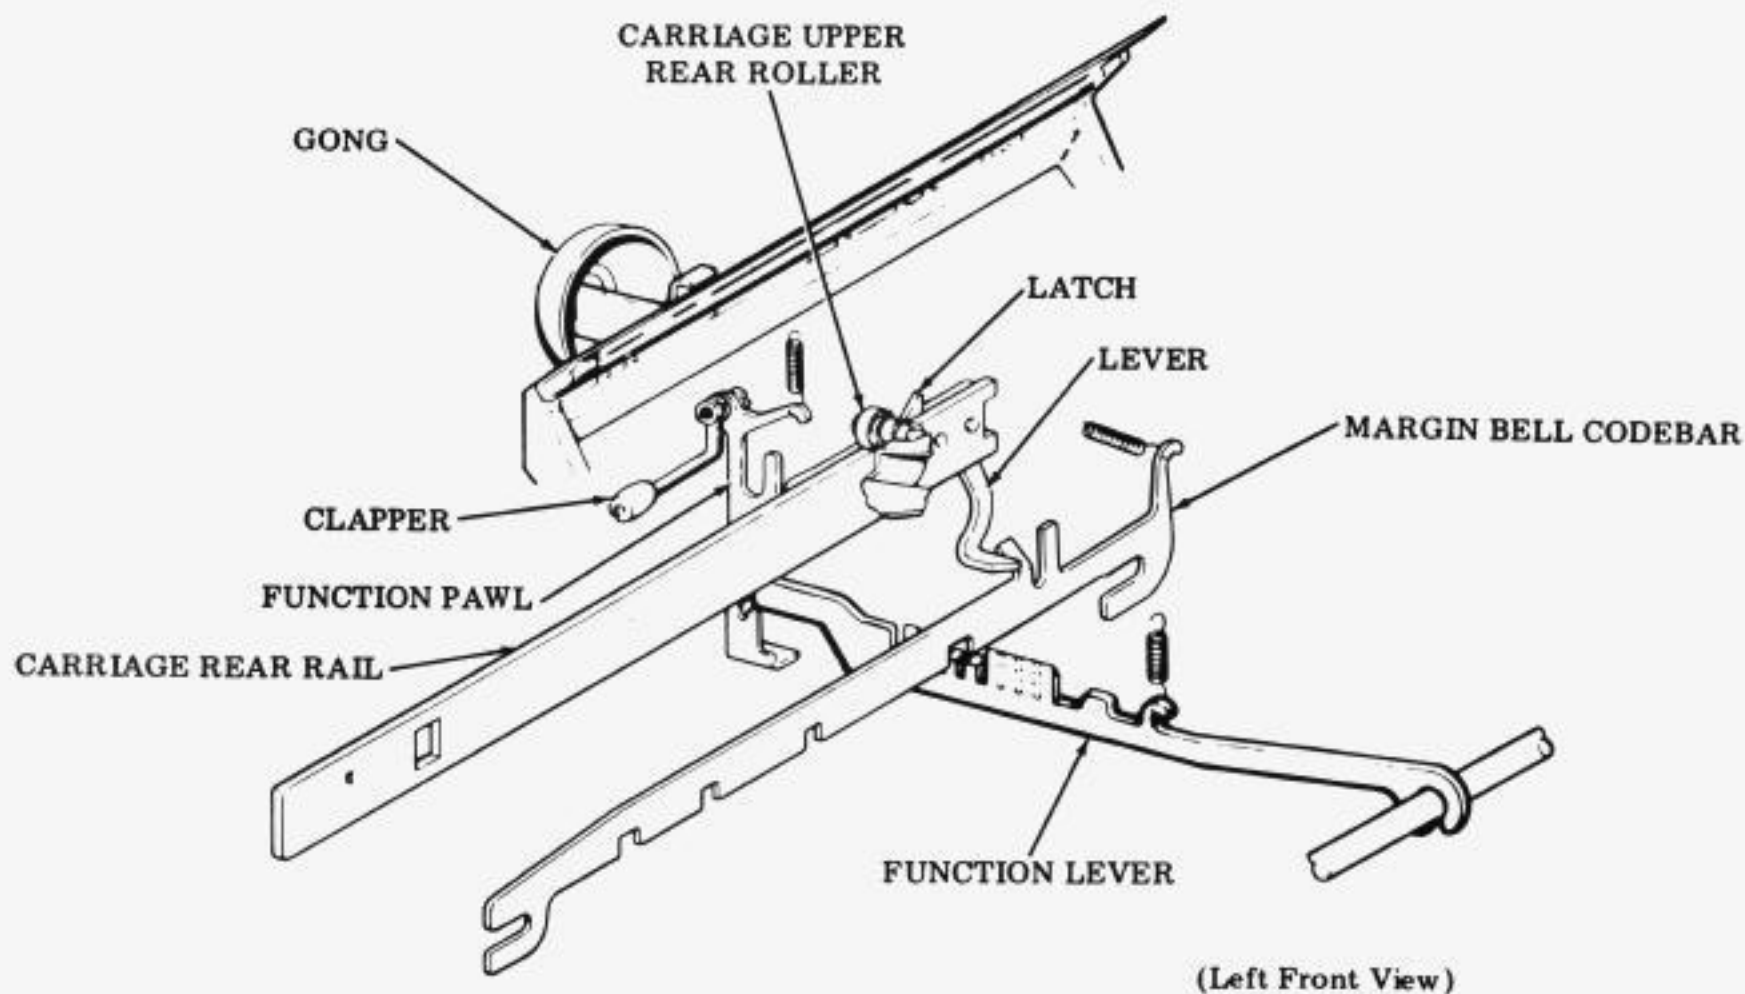

Figure 13 - Margin Bell Signal
2.37 When printing is begun and the carriage moves a sufficient distance to the right, the carriage upper-rear roller (see Figure 13) depresses a latch mounted on the carriage rear rail. The latch which remains depressed for one to two characters, pivots a lever which moves the margin bell codebar to the right. When the margin bell codebar is in this right side position, a function lever senses a notch in the lower edge of the margin bell codebar and picks up a special function pawl. This pawl moves the adjacent pawl which has a clapper loosely fixed to it. The pawl w/clapper is driven downward by the motion of the function lever. A stripper bail then strips the function pawl allowing it to move upward under its associated spring tension until it hits an upstop. Due to its loose fit, the clapper dynamically continues its upward motion and strikes a gong. The impact drives the clapper free of the gong, allowing the gong to ring undamped.